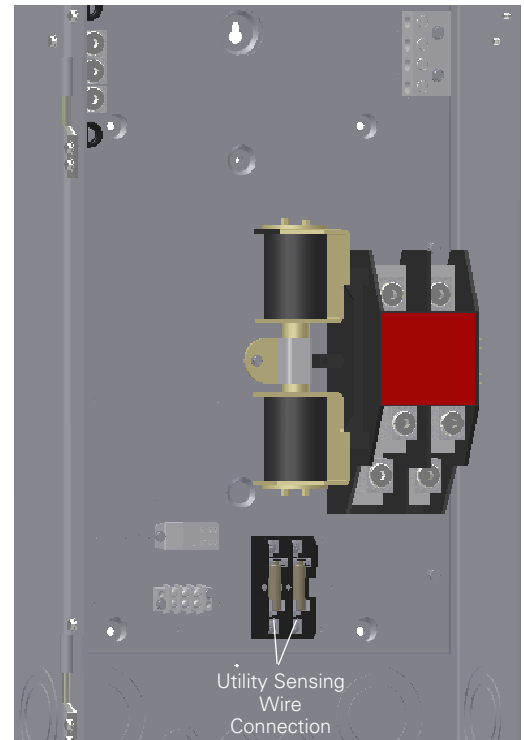

Figure 16. Generator Utility Sensing Wires Connection (Typical).
Step 2: If your generator requires utility power for engine start sensing then the generator utility sensing connections are located on the fuse block that is installed in the transfer switch (see Figure 16). The utility sensing wires, required for proper generator operations, are connected at this point. See Section 4.7 for more detailed information on connecting the generator utility sensing wires.